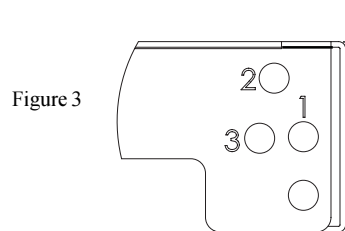
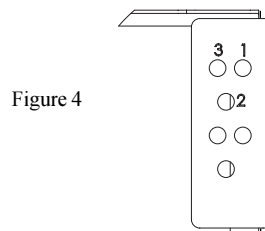

Figure 3
Figure 4
3. Greyfox module brackets are designed to work with other manufacturers' enclosures. There are holes in the brackets that will line up with the mounting holes in those enclosures. They are as follows (see Figure 3 for video mounting holes and Figure 4 for phone and data mounting holes):